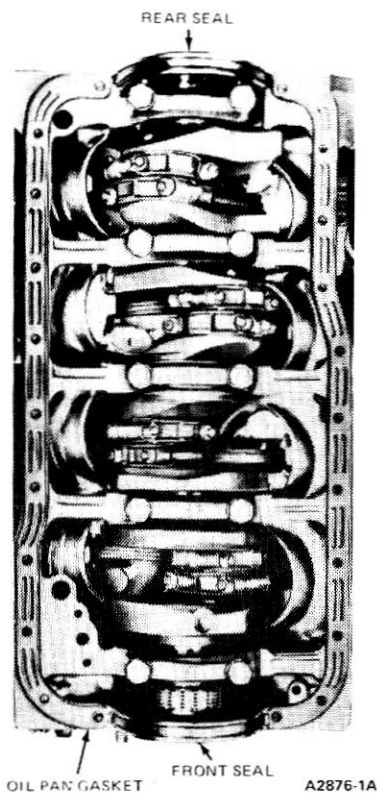

FIG. 34 Oil Pan Gaskets and Seals Installed
2. Position oil pan gasket and seals to cylinder block using contact cement (Fig. 34).
2. Position oil pan gasket and sealer to cylinder block using contact cement (Fig. 34).
5. Position the steering gear to the main crossmember. Install the two (2) attaching bolts and torque to specification.
6. Position rear "K" braces and install the the attaching bolts (4).
10. Position the shroud to the radiator and install the two (2) attaching bolts. Start the engine and check for leaks.
3. Coat the block surface and the oil pan gasket with sealer. Position the oil pan gaskets on the cylinder block (Fig. 34).
5. Position the oil pan rear seal on the rear main bearing cap (Fig. 34). Be sure the tabs on the seal are over the oil pan gasket.
3. Coat the block surface and oil pan gaskets with sealer. Position the oil pan gaskets on the cylinder block (Fig. 34).